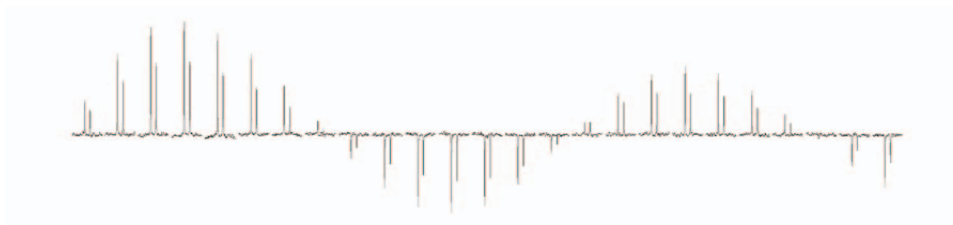

Figure 89. CPMAS pwX90 for 4.0 μs ^{13}C 90-degree pulse
- The result is similar to Figure 89.